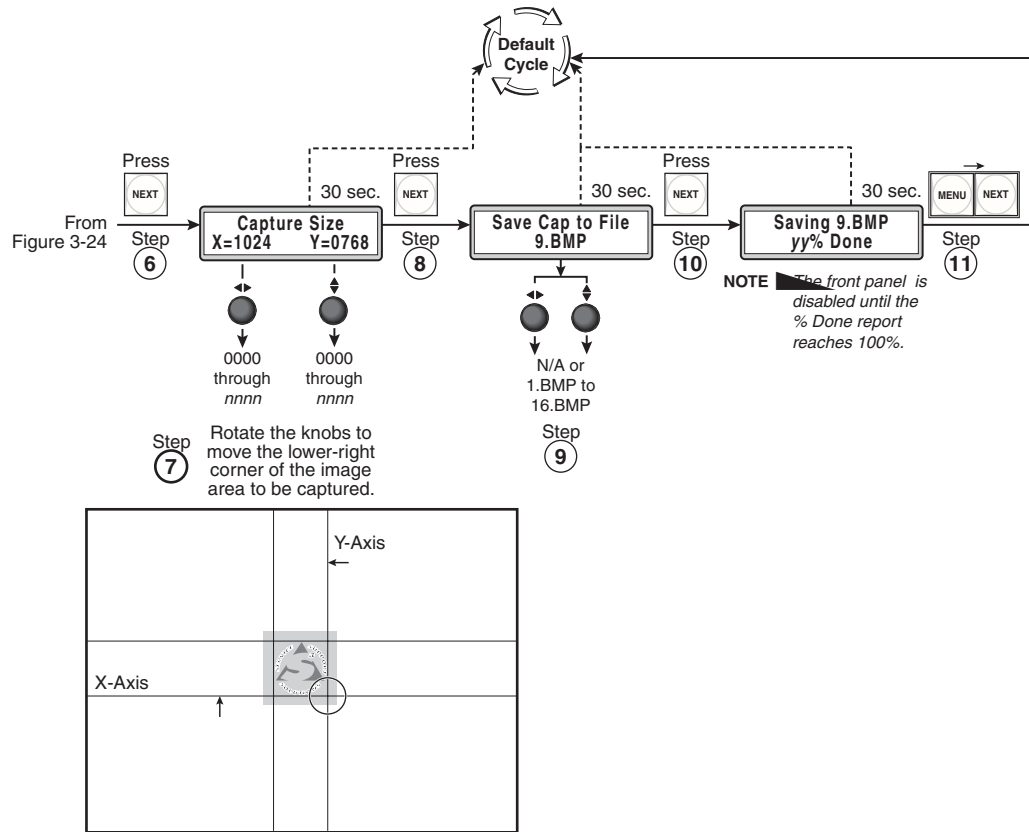

Figure 3-25 — Capturing a logo, continued
6. Press the Next button (figure 3-25). The Capture Size submenu appears.